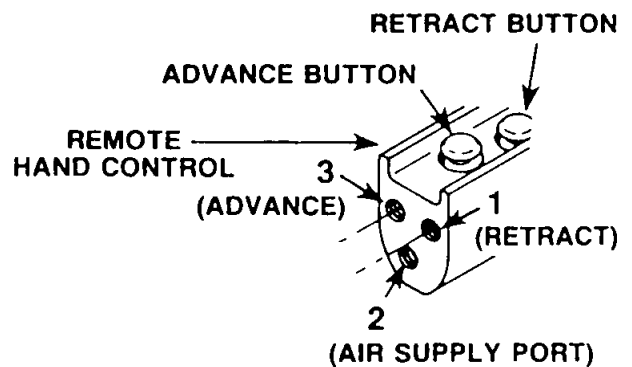

FIGURE 1
- Note that the male fittings of the hose are stamped with the numbers "1", "2", or "3" on each end. Connect the hoses to the remote hand control by matching the numbers stamped on the hoses to the hoses to the corresponding numbers stamped near the inlets of the remote hand control. See Figure 1.